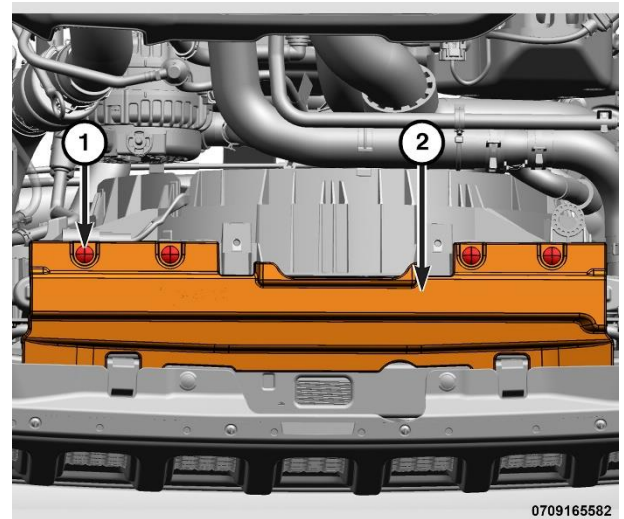

Figure 176 – Upper Radiator Seal
6. Remove the push pins retainers (1) and upper radiator seal (2) (Figure 176).